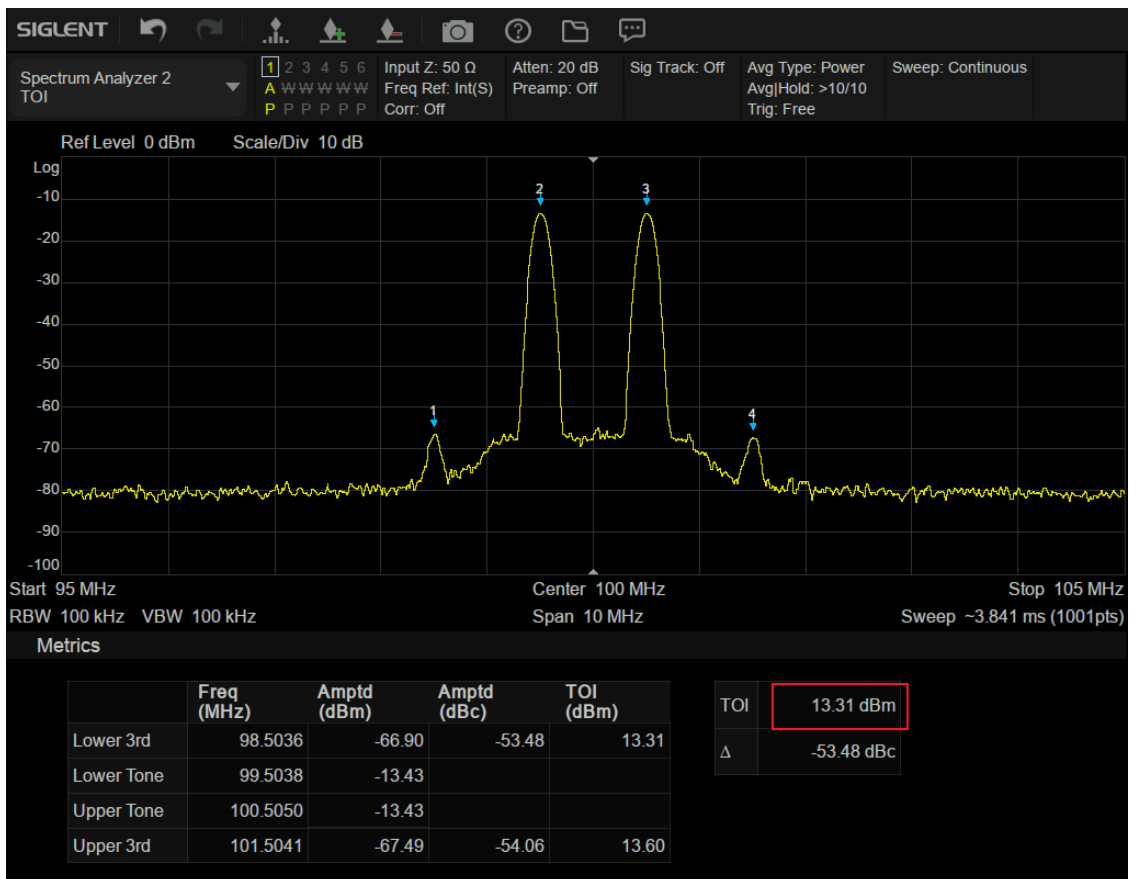

Figure 11 TOI measurement result
- 3) The third-order intermodulation measurement result is shown in Figure 11. The result window displays the fundamental frequency and power, as well as the third-order intermodulation frequency and power, and the calculated the third-order intercept value.